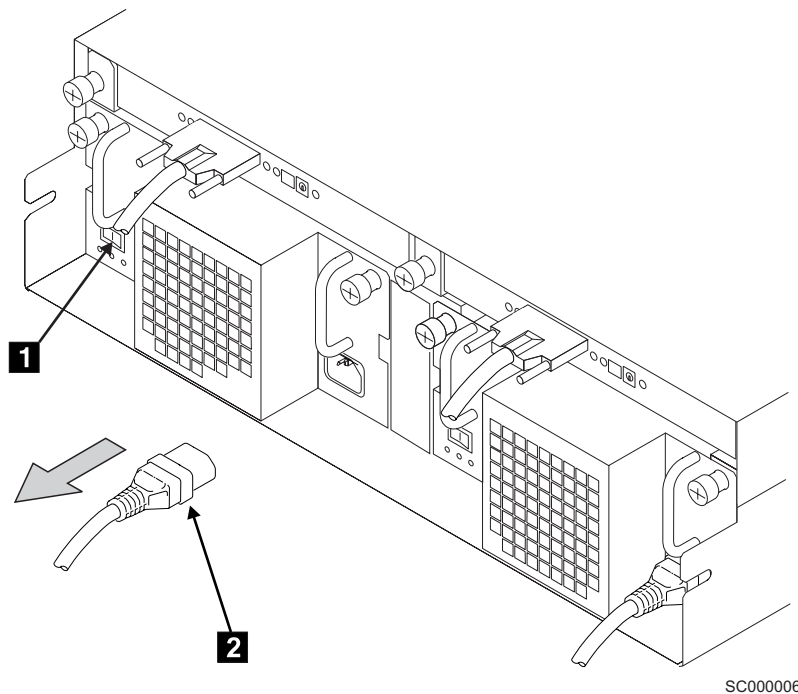

Figure 57. Switching off and disconnecting a fan-and-power-supply assembly
5. At the back of the 2104 Model DS4 or Model TS4, set the dc on/standby switch **1** to standby on the fan-and-power-supply assembly that you are removing, as Figure 57 shows.